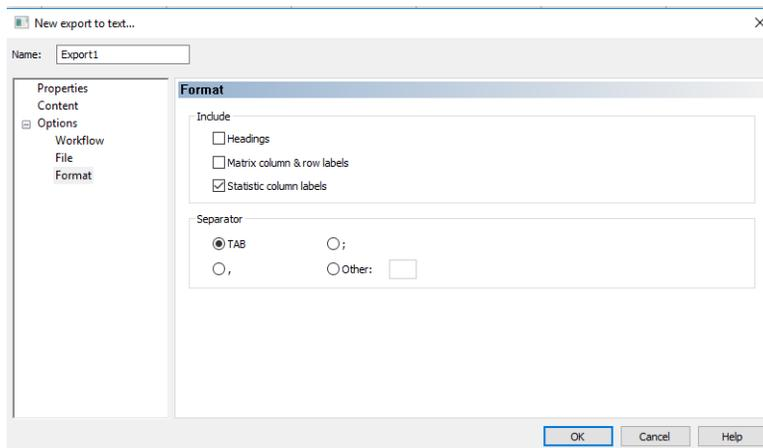

Figure 21. Exporting a Data File in Gen 5 Software, Settings for Format Tab.
- 7 Select **Format**. See **Figure 21**.